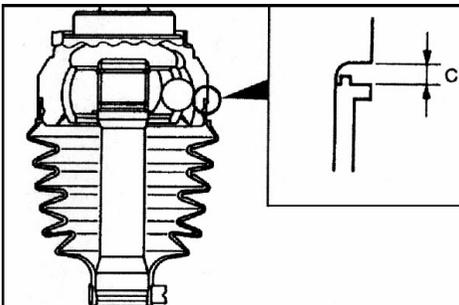

Fig.12-38
11. Install the R.J. boot band (large) so that there is the clearance (C) between it and the R.J. housing is at the standard value. (see Fig.12-38)。